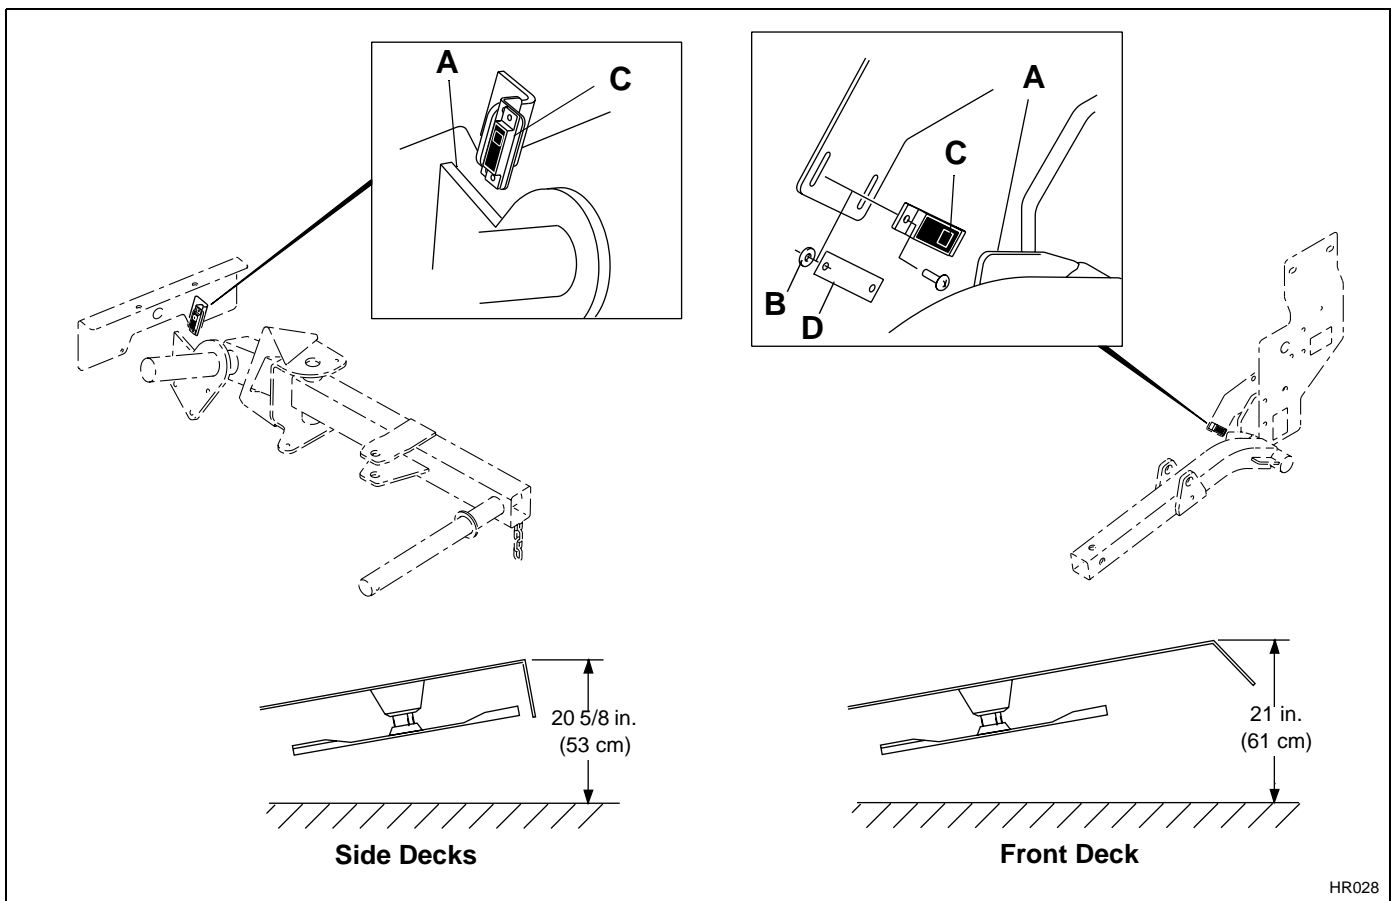

Figure 4K
2. Start tractor and raise or lower decks until the highest point on the top corner of the deck reaches the height shown in Figure 4K.